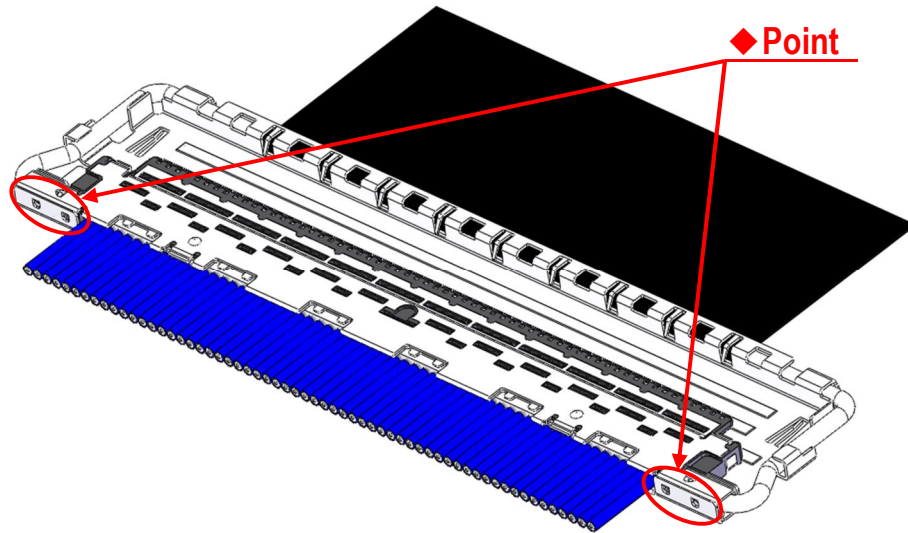

Fig.11 Soldering of Shell-A and Shell-B
- ⑤ Soldering shell-A and Shell-B with the soldering iron at all designated points is recommended. (Fig.11 ◆ point)